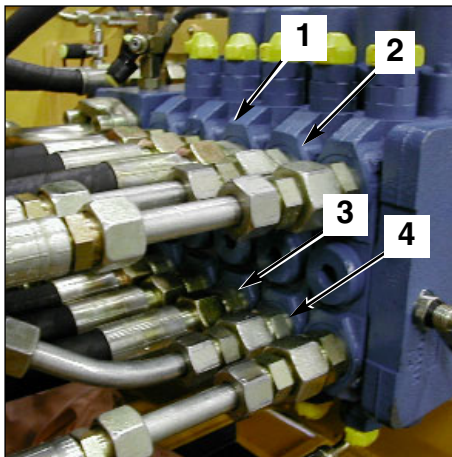

Fig. 1 SX18 valve block
- small chambers of the dipper ram and bucket ram (1 fig. 1) and (2 fig. 1).
- large chambers of the dipper ram and bucket ram (3 fig. 1) and (4 fig. 1).